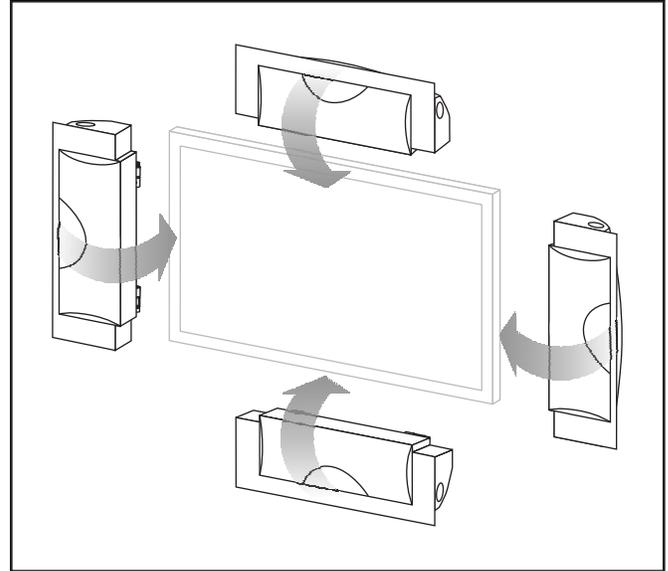

Figure 24. Rotate the Fresco i into position and tighten the cap nuts.
- 12 Rotate the Fresco i to point at the listening position and tighten the cap nuts (see figure 24).